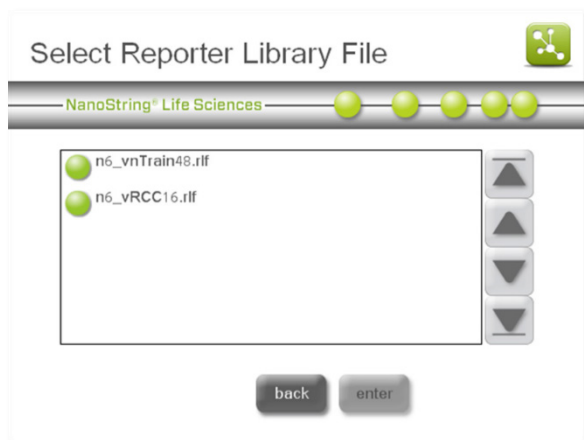

Figure 78: The 'Select Reporter Library File' screen.
- d. Select the library RLF data field. The 'Select Reporter Library File' screen will appear (Figure 78).